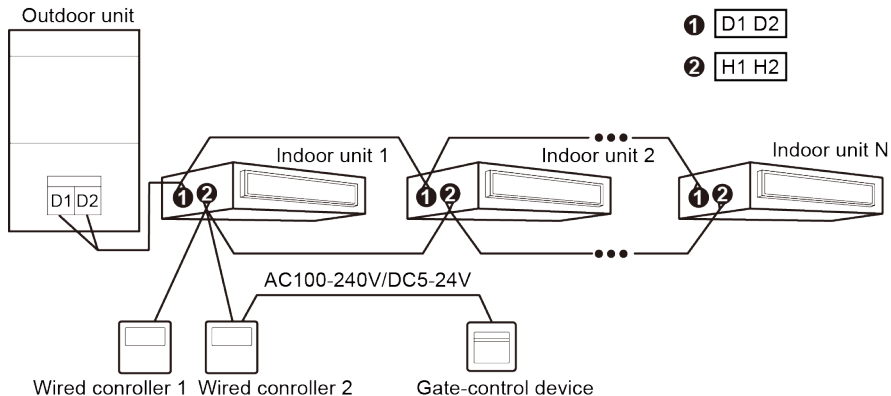

Figure 5.13 Connection fashion 2 of Wired Controller and Gate Control
- ① Wired controller 2 in figure 5.13 can be set as master controller or slave controller.
- ② Wired controller 1 in figure 5.13 can be model or other models.
- (4) Power input of gate control card insertion/removal device supported by wired controller XK79. AC 100-240V ~50/60Hz, DC 5~24V. In practice, connect the gate control output power cord with the corresponding power